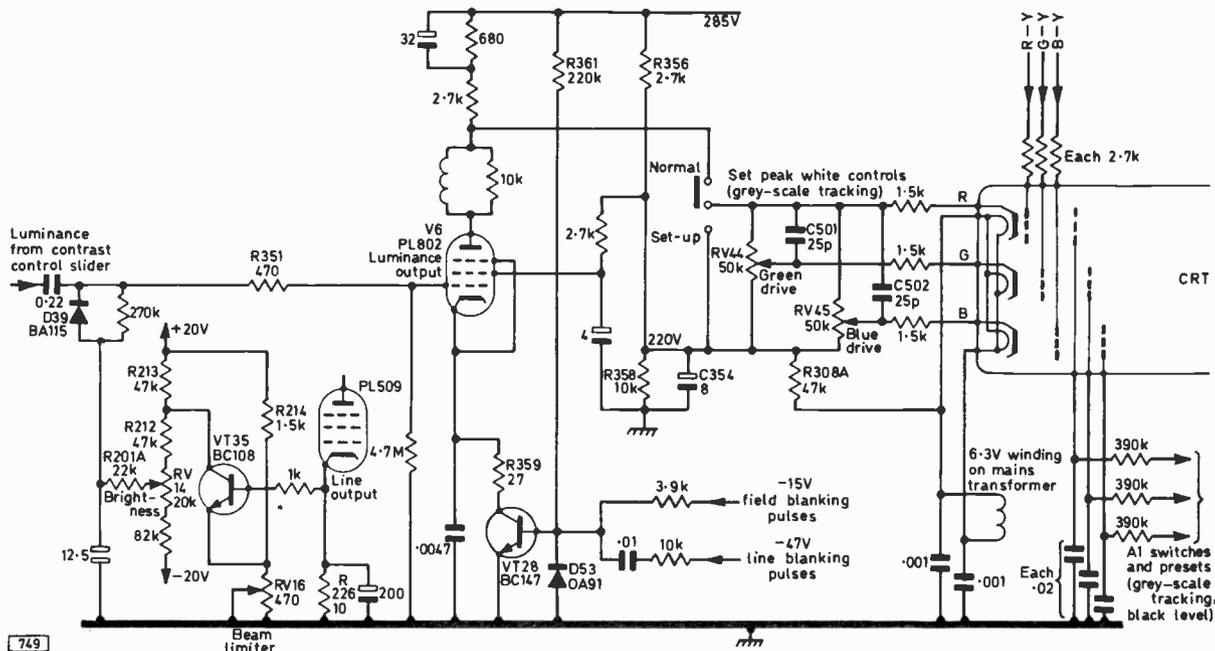

Fig. 1: The luminance output circuit used in the Pye 691 chassis, showing the brightness control, flyback blanking and beam limiting arrangements.
Fig. 1 shows the luminance output stage used in the Pye 691 single-standard chassis, including the brilliance control and beam limiter circuitry. The techniques used in this chassis were very widely employed in colour sets with colour-difference c.r.t. drive.
D.C. restorer diodes used in monochrome receivers (e.g. in the Philips 210 chassis) are usually simply shunted across the video output pentode grid circuit with the anode to chassis. In a colour receiver however this is a convenient point at which to introduce the brilliance control action. As can be seen in Fig. 1 the anode of the d.c. restorer diode D39 is returned via a 22k Ω resistor (R201A) to the slider of the brilliance control. The track of the brilliance potentiometer is connected between negative and positive rails via limiting resistors. The tapped off potential does not go positive however, the arrangement simply allowing the beam limiting transistor (VT35) to operate. The net result is that the voltage tapped from the brilliance control forms a d.c. base on which the d.c. restored luminance signal is superimposed. This signal is applied to the luminance output pentode (V6) grid via R351: thus altering the brilliance control setting varies the valve's operating point. As the anode of the luminance output pentode is directly linked to the three cathodes of the shadowmask tube variations in the mean anode voltage of V6 due to changes in its negative grid
Finally let us consider the types of fault that can develop with the circuitry shown in Fig. 1. Inability to obtain an untinted raster throughout the range of the brilliance control is almost always due simply to incorrect setting of the grey-scale tracking adjustments. Inability to obtain normal peak brightness is commonly caused by an incorrectly set beam limiter but can also of course be due to a low-